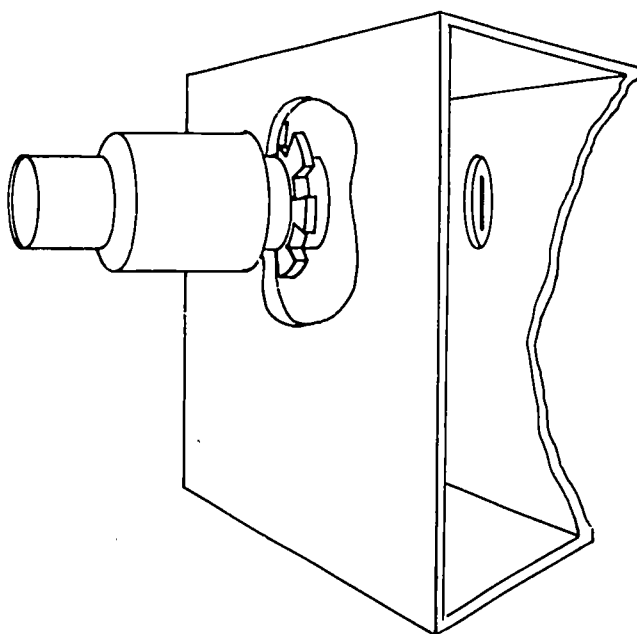

Fig. 53-7. Connector Installed
4. Remove the knockout from the side of the duplex outlet box, and attach the EMT connector as in Fig. 53-7.